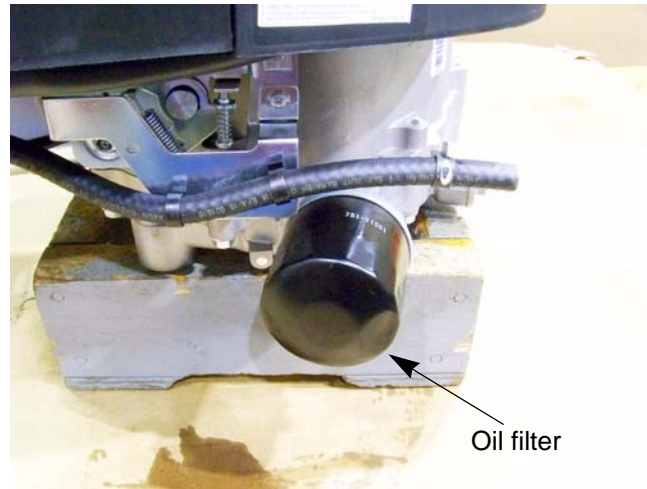

Figure 1.7
3. Remove the oil filter by turning it counter-clockwise, as seen from the left side of the engine. See Figure 1.7.